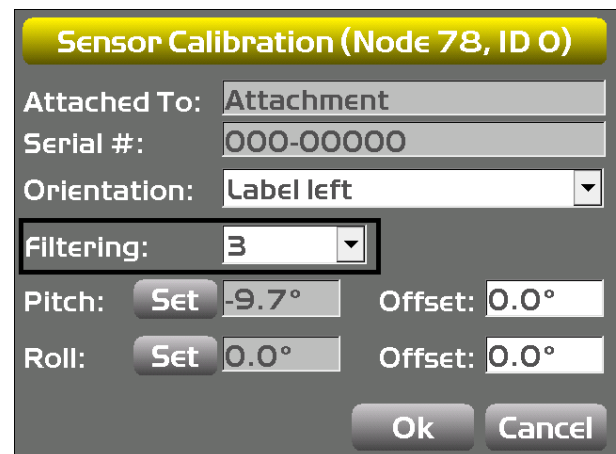

Figure 58: Set Filtering Level
- Tap the **Wrench**  icon next to **Sensor ID** (Figure 58).
- Select a filtering level and tap **OK** (Figure 58).